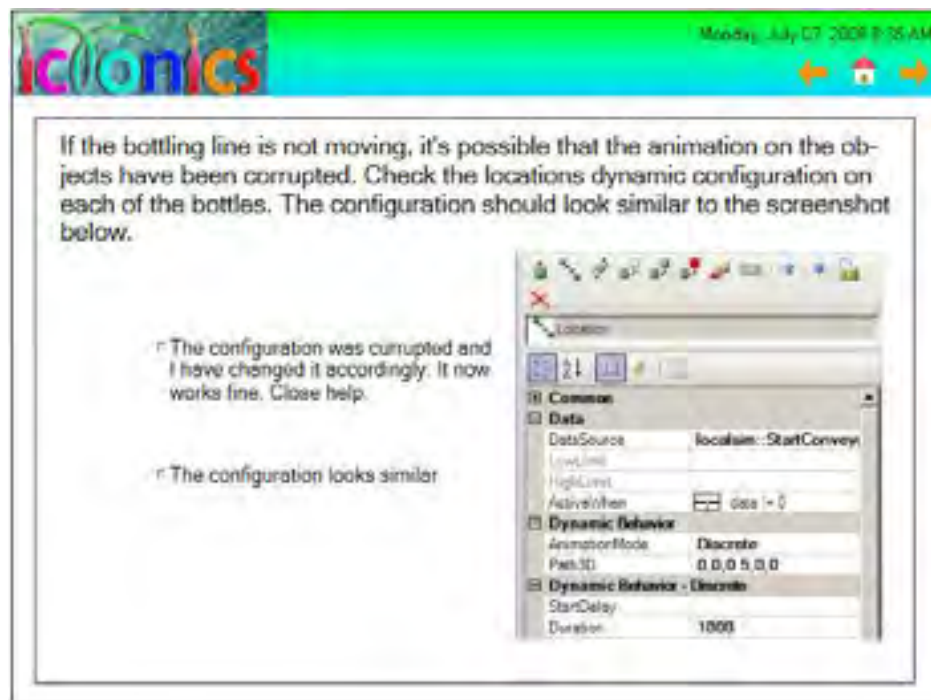

Figure L1.3 - Screen2
13. Make the screen look similar to Figure L1.3.